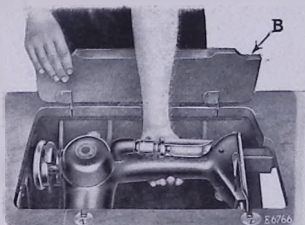
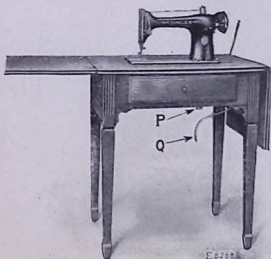

FIG. 5. RAISING MACHINE OUT OF CABINET 40
FIG. 6. KNEE LEVER LOWERED TO OPERATING POSITION
With the right hand raise the front hinged portion (B, Fig. 5) of the table, and at the same time, place the left hand under the front side of the arm of the machine, as shown in Fig. 5, being **very careful not to touch the electric lamp or shade**, and raise the sewing machine head, then replace the hinged portion of the table and lower the machine so that it rests on the table, as shown in Fig. 6.
Pull down the knee lever (Q) to the vertical position as shown in Fig. 6.
Push the terminal plug at one end of the electric cord as far as it will go on the three-pin terminal block under the cabinet, as shown at (P) in Fig. 6.
Raise the sewing machine head out of the cabinet as shown in Fig. 5, being very careful not to touch the electric lamp or shade, then turn down the hinged flaps of the table top and lower the machine so that it rests on the table as shown in Fig. 10.
With the left hand grasp the machine around the front side of the arm, turn it slightly back on its hinges, and at the same time, with the right hand, raise the front hinged portion (B, Fig. 5, page 7) of the table, lower the machine head, **being careful not to touch the electric lamp or shade;** then lower the hinged portion (B).
Place the material beneath the presser foot, lower the presser foot and commence to sew, pressing the knee lever (Q, Fig. 6, page 7) to the right to start the machine.